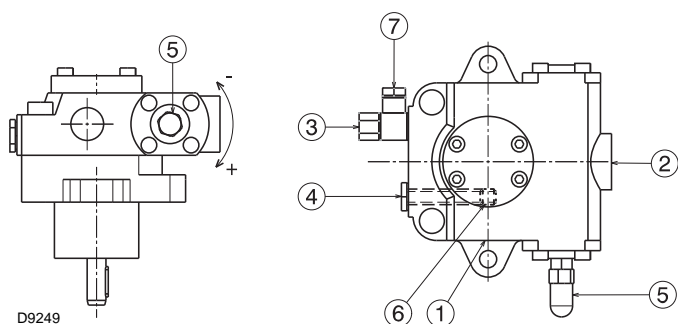

Fig. 25
They are installed on the burner with the by-pass closed by screw 6 (Fig. 25 on page 30).
- In order for the pump (Fig. 25 on page 30) to self-prime, it is vital that the screw 4) of the pump be loosened to vent the air contained in the suction line.
Key (Fig. 25 on page 30)
The a.m. operation is possible because the pump is already full of fuel when it leaves the factory. If the pump has been drained, fill it with fuel through the opening on the vacuumeter 4)(Fig. 25 on page 30) prior to starting; otherwise, the pump will seize.